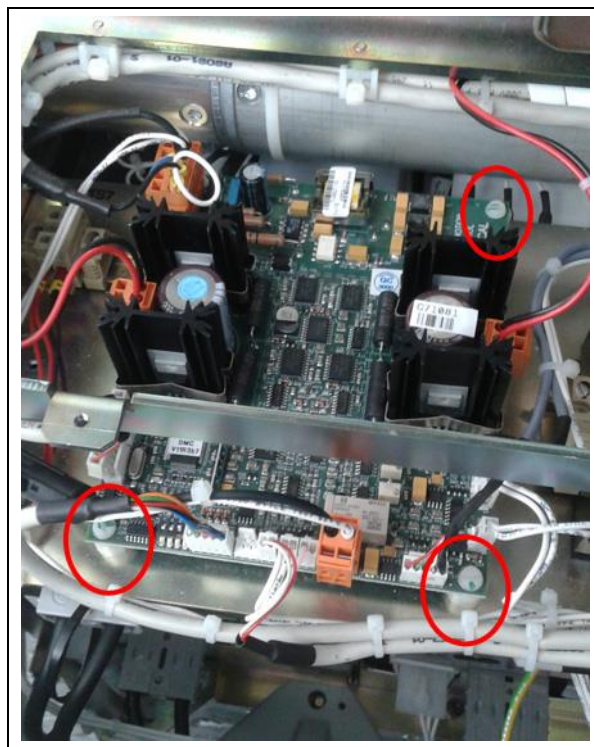

Figure 8: Example photo
- (4) Take a photo of the installed DMC isolation kit. At least three plastic screws and plastic spacers should be visible – see red circles in Figure 8.
- (5) Fill in the feedback form and upload the photo: Mandatory action # 3